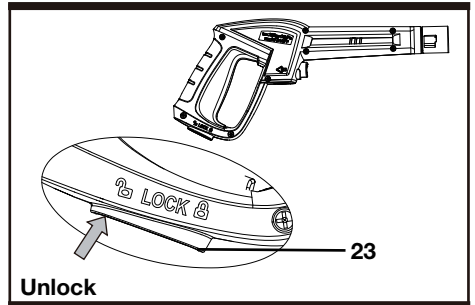

Fig.F2
23. Lock-on/off switch (See Fig. F2)